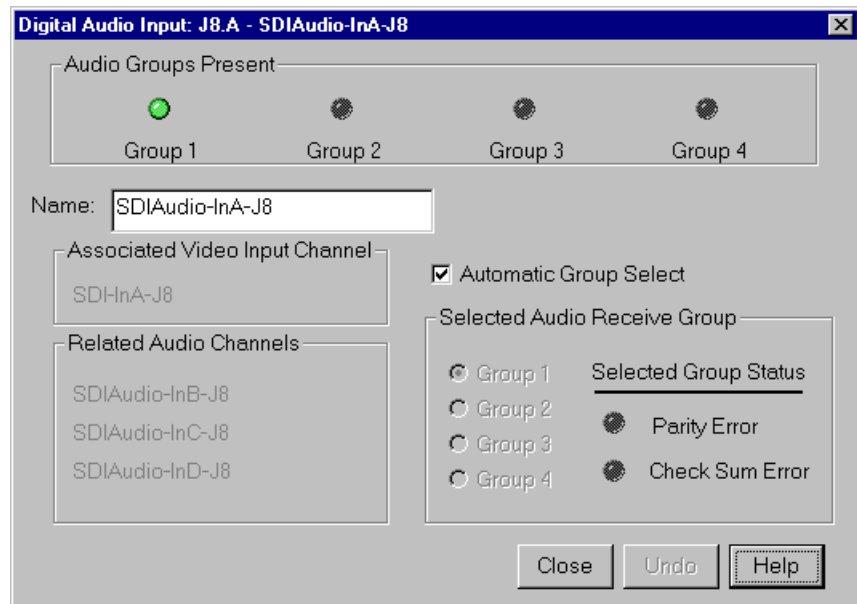

Figure 28. Digital Audio Input dialog box
1. Select **Audio Input** from the configuration tree, and then click or double-click a digital audio name from the list, and the Digital Audio Input dialog box appears (see Figure 28).